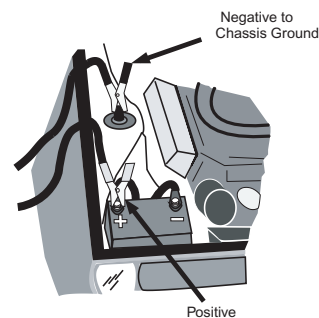

Figure 5. Negative Ground
- a. Negative Ground Vehicles (most common, see Figure 5)